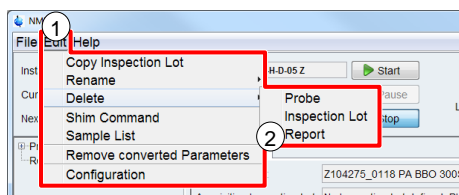

Figure 5-27: Delete Inspection Lot in menu
To delete a report from *NMRPT*, on the **Edit** menu shown in Figure 5-27 (1), point to **Delete**, and click **Report** (2).